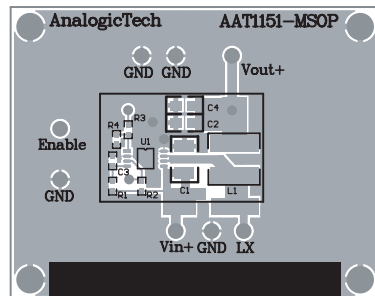

Figure 2: MSOP Evaluation Board Top Layer
The input capacitor RMS ripple current reaches a maximum when  $V_{IN}$  is two times the output voltage where it is approximately one half of the load current. Losses associated with the input ceramic capacitor are typically minimal and not an issue. The proper placement of the input capacitor can be seen in the reference design layout in figures 2 and 4.
Figures 2 through 5 display the suggested PCB layout for the AAT1151. The following guidelines should be used to help insure a proper layout.
- Low pass filter R1 and C3 provide a cleaner bias source for the AAT1151 active circuitry. C3 should be placed as close as possible to SGND (pin 2) and  $V_{CC}$  (pin 4). See Figures 2 and 7.